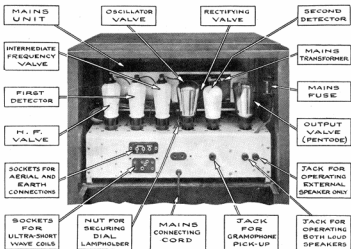

Fig. 3
All Kolster-Brandes Radio Products are thoroughly tested and inspected before leaving the factory and provided they are not subsequently tampered with or damaged in transit, they may be relied upon to give satisfactory and reliable service. In the unlikely event of any form of trouble developing after a period of use the receiving and rectifying valves should be carefully examined to ensure that any of them have not become defective or deteriorated in use. **If any valve is known or considered to be defective and has not been damaged by accidental mechanical shock or misuse, it should be returned direct to the makers for examination and report.** A special fuse is provided to protect the receiver and valves in the event of a temporary overload occurring on the mains. The position of this fuse in the receiver is clearly shown in Fig. 3 and if the set should fail to operate this may be due to the fuse having blown. **A new fuse should**
4. Insert the receiving valves †. Six valves are supplied for use in the positions indicated below and to serve the purposes specified in Fig. 3. Take care that the valves are inserted in the correct holders. The positions are indicated by numbers from left to right when looking at the back of the receiver.
5. Connect the three flexible leads to the terminals on the tops of the three screened grid valves, as shown in Fig. 3, and also the flexible lead to the side terminal on the pentode output valve.
Two jacks are provided at the back of the receiver for the connection of an additional speaker (see Fig. 3). The external speaker may be a balanced armature type of instrument of good design, or a moving coil speaker of either the permanent-magnet or electro-dynamic types, providing the effective impedance of the speaker is not lower than approximately 8,000 ohms, but if of the electro-dynamic type, means must be provided for supplying the necessary energising current for the field winding.
The external speaker (or extension lines if the external speaker is in another room) should be connected to a standard connecting plug which should be plugged into one of the jacks according to whether it is desired to operate both speakers simultaneously or the external speaker only. (See Fig. 3).
The lamp-holder is mounted on a metal strip which runs beneath the mains unit and is secured in position by the milled-head nut (See Fig. 3). To change the lamp, if necessary, unscrew the nut when the metal strip carrying the lamp-holder can be lifted and withdrawn.
A jack is provided at the back of the receiver to enable a pick-up to be connected for the electrical reproduction of gramophone records. (See Fig. 3.)